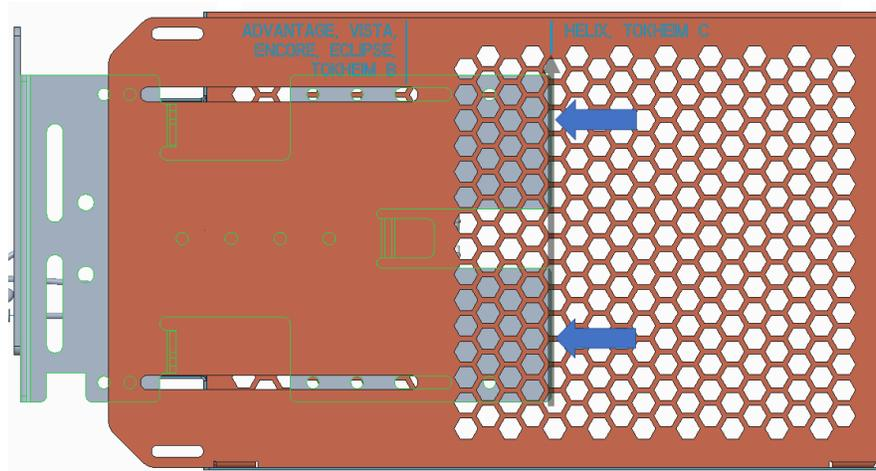

Figure 195
- 9) Slide the wire guard (497-0522796) around the NCR heater assembly so that the edge of the bracket aligns with the Helix, Tokheim C alignment mark as shown in Figure 195.